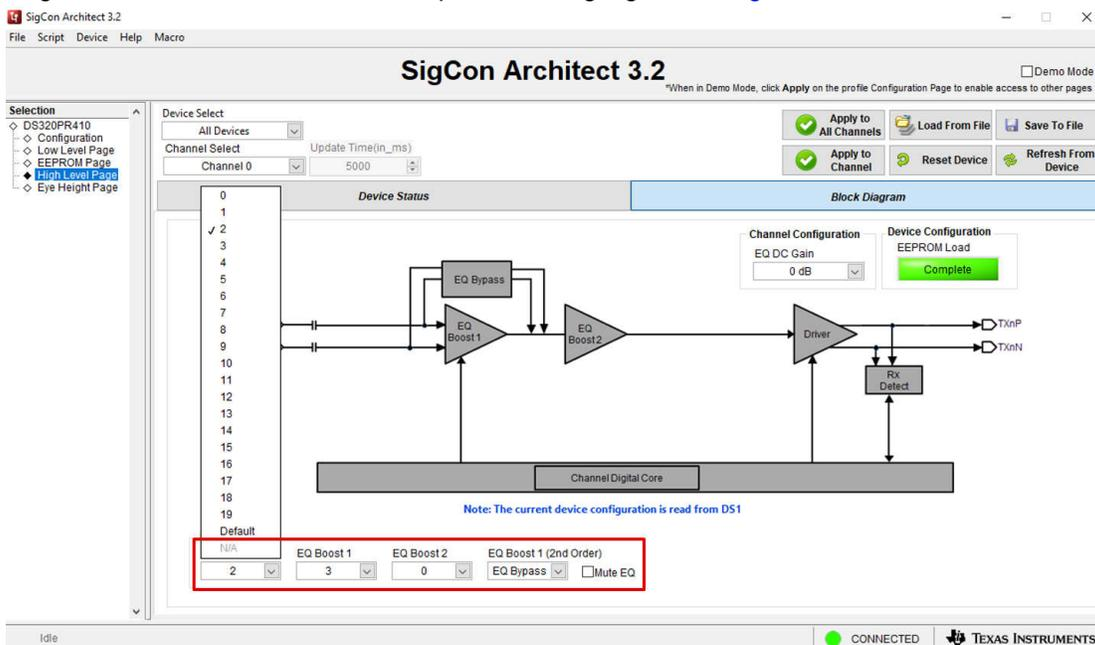

Figure 5-3. High Level Page: EQ Index and EQ Boost Select
- Select the desired *EQ Index / EQ Boost* settings and *EQ DC Gain*. The *EQ Index* drop-down menu is the easiest way to quickly adjust the amount of redriver equalization boost applied. After selecting an *EQ Index* value, the *EQ Boost 1*, *EQ Boost 2*, and *EQ Boost 1 (2nd order)* fields are automatically populated. The user can adjust each boost value for finer tuning as needed. Refer to the device data sheet for more information regarding *EQ Index* boost values. These options are highlighted in Figure 5-3.